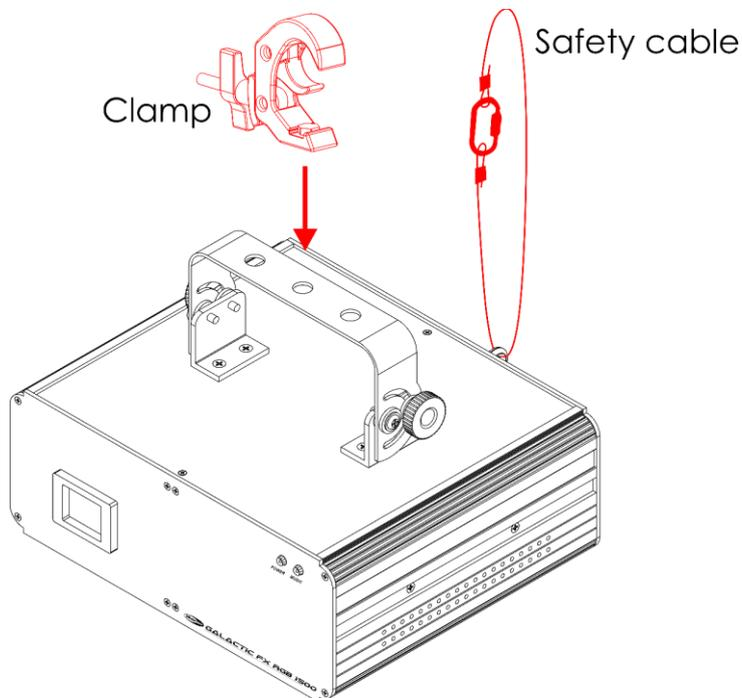

Fig. 09
- 01) Use a clamp to attach the device to the supporting structure, as shown in Fig. 09. Make sure that the device cannot move freely.
- 02) Secure the device with a secondary suspension, for example a safety cable. Make sure that the secondary suspension can hold 10 times the weight of the device. If possible, the secondary suspension should be attached to a supporting structure independent of the primary suspension. Put the safety cable through the **safety eye (19)**, as shown in Fig. 09.